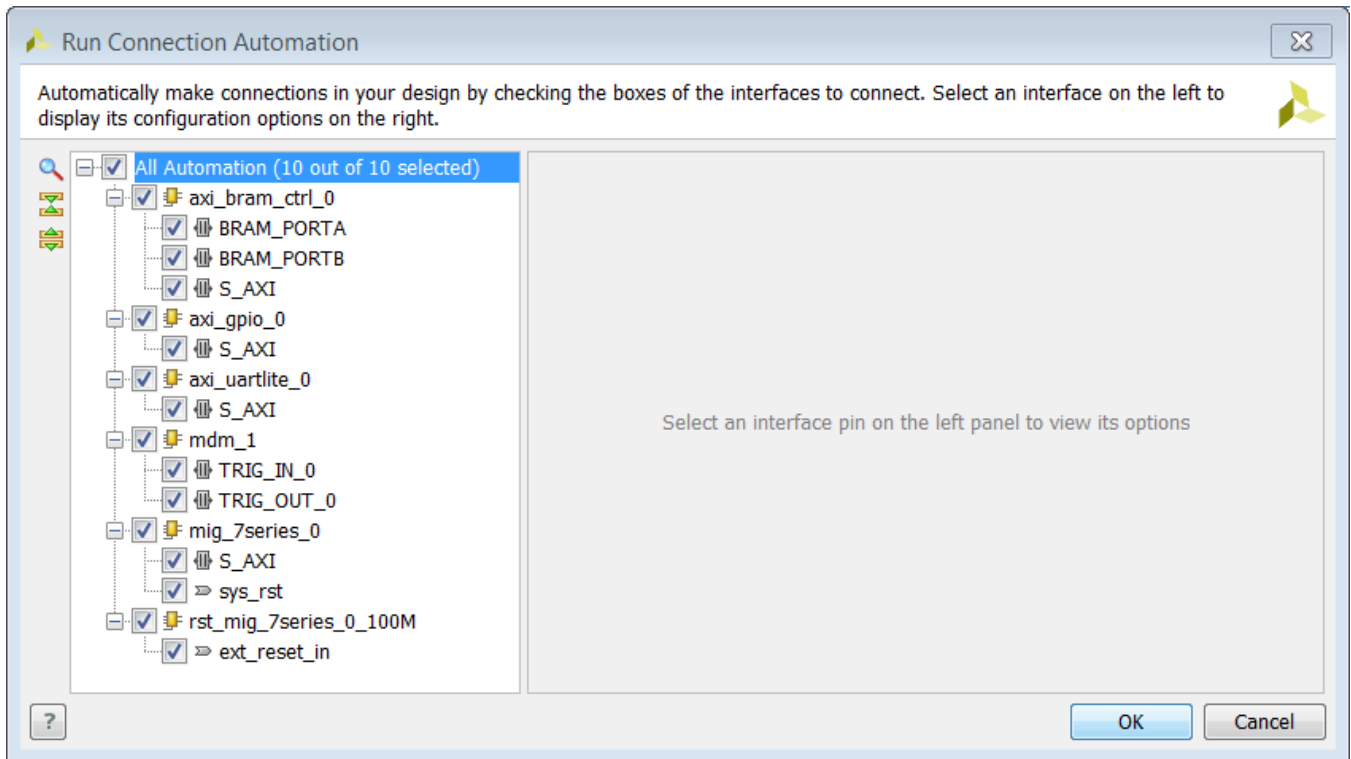

Figure 98: Run Connection Automation Dialog Box
2. Check the interfaces in the left pane of the dialog box as shown in Figure 98.